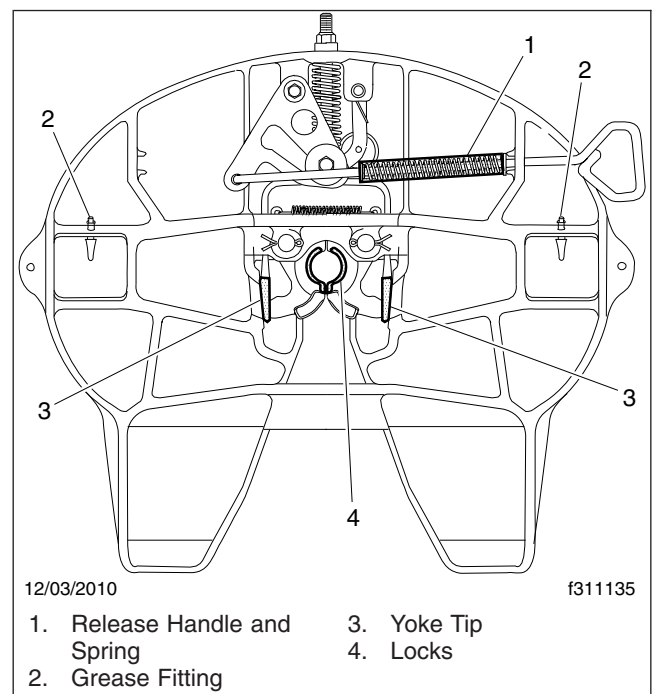

Fig. 9, Holland FW35 Fifth Wheel, Grease Lubrication
3. Grease the yoke tips, locks, and the release handle and spring; see Fig. 9. Grease the mounting bracket supports through the grease fittings. A "low temp" grade grease rated for -30°F (-34°C) or lower such as Cato Oil and Grease #5213, Craftsman Chemical Co. #LTF 2, Mystic LP-200, or equivalent is recommended.